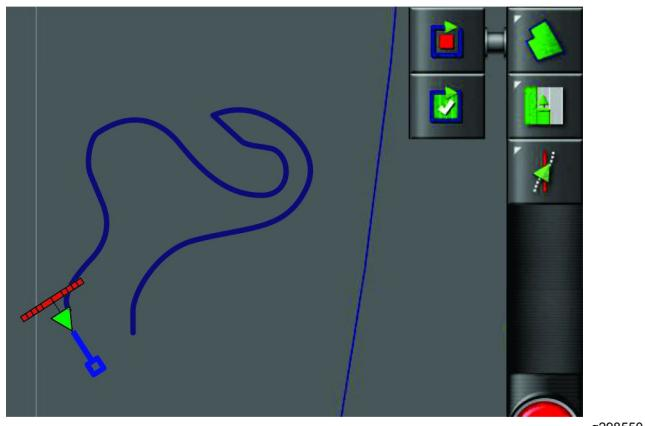

Figure 44
- When you are close to the beginning point of the field boundary, stop the machine (Figure 44).